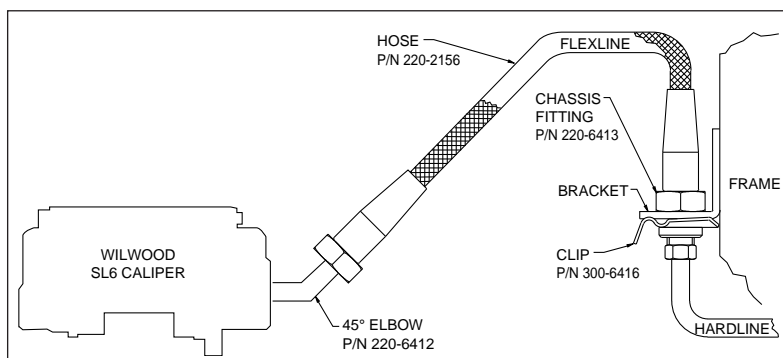

Figure 4. Brake Line Diagram
- Remove the caliper center bridge pad retainer bolt, nut, and tube from the caliper. Insert the brake pads (13) into the caliper, with the friction material facing the rotor, as shown in Photo 4. Check that the top of the brake pad is flush with the outside diameter of the rotor, Photo 5. If not, adjust by adding or subtracting shims (12) between the caliper and the bracket. After the caliper pad height is set, reinstall the center bridge pad retainer tube, bolt, and lock nut. The lock nut should be snug without play in the bolt or tube. Be cautious not to over tighten. Torque the caliper lock nuts (8) to 30 ft-lb.
- NOTE:** *The caliper in this brake kit utilizes a 1/8-27 NPT pipe thread inlet. OEM rubber brake hoses generally cannot be adapted to Wilwood calipers. Wilwood offers a brake flex line hose kit to fit this application, order P/N 220-9100, Figure 4. Hose kit includes hoses, fittings, etc., all in one package for this application. Carefully route hoses to prevent contact with moving suspension, brake or*